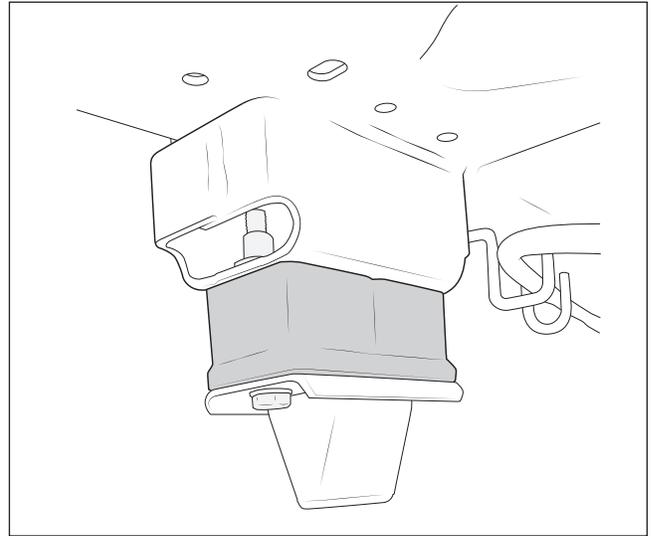

Figure 52
11. Install the AEV bump stop spacers with supplied hardware and torque to **40 ft-lbs** (fig. 52).